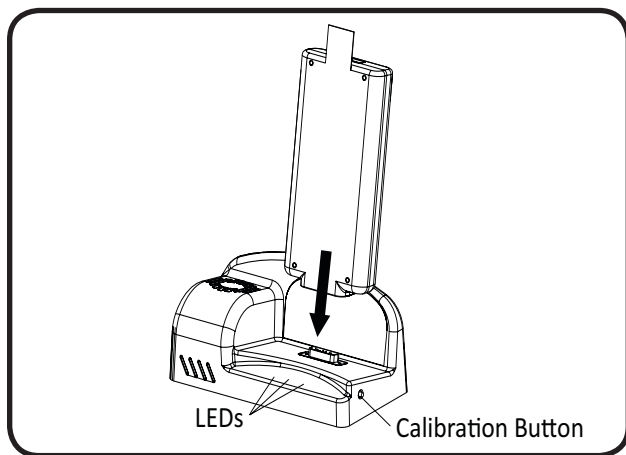

Figure 2
3. Align the battery connector and charger connector and push them together. The MTI Logo on the battery should face out. (Figure 2).
Calibration of the battery fuel gauge is achieved by plugging the charger into a properly grounded outlet, connecting the battery to the charger, and then pressing the calibration button on the side of the charger (See Figure 2). While calibrating the battery, keep the charger away from direct sunlight or heat sources in order to avoid calibration errors. There may be a short delay before the calibration begins.